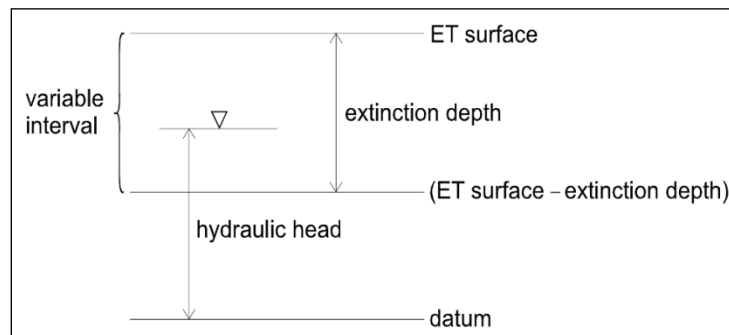

Figure 1 ET model, from Banta (2000)1
The EVT package requires three parameters to determine evapotranspiration: the evapotranspiration (ET) surface elevation, the maximum ET rate, and the extinction depth. When the head in a cell is at or above the ET surface, ET occurs at the maximum ET rate. When the head is below the extinction depth, ET is zero. In between these two points, the ET varies linearly (Figure 1).